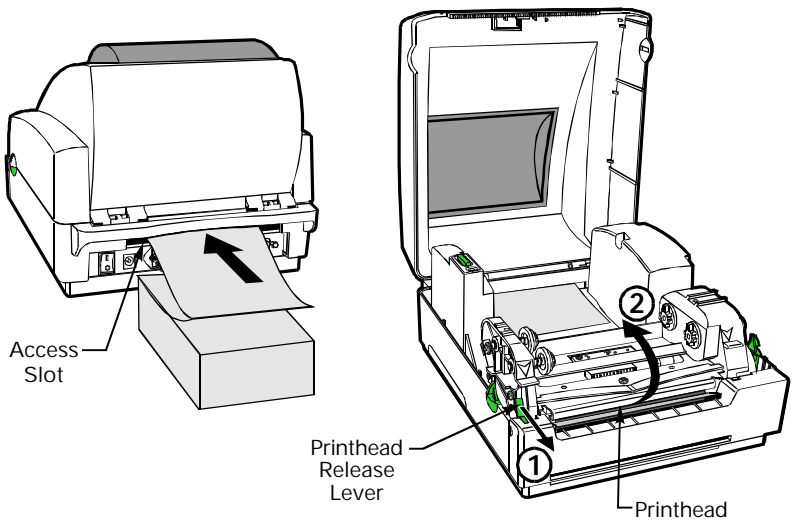

Figure 24
1. Thread the media through the access slot in the back of the printer (refer to Figure 24).
3. Release the printhead by pulling the printhead release lever toward you (refer to Figure 24, “1”).
4. Lift the printhead (refer to Figure 24, “2”) until you feel it “lock” into place. Be careful not to force the printhead past this position!